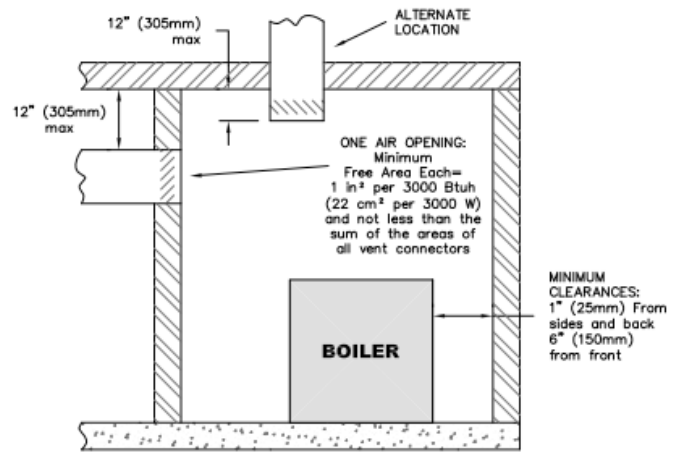

Figure 1.7: Air Openings - All Air from Outdoors
- b. One Permanent Opening Method: Provide one permanent opening beginning within 12 inches (305 mm) of the top of the space. The opening shall communicate directly with the outdoors, through a vertical or horizontal duct, or communicate with a space that freely communicates with the outdoors. The opening shall have a minimum free area of 1 in² per 3000 Btu/hr. of total rated input for all appliances in the space and not less than the sum of the cross sectional areas of all vent connectors in the space. The gas-fired equipment shall have clearances of at least 1 inch (25 mm) from the sides and back and 6 inches (150 mm) from the front of the appliance. See Figure 1.7 for this arrangement.